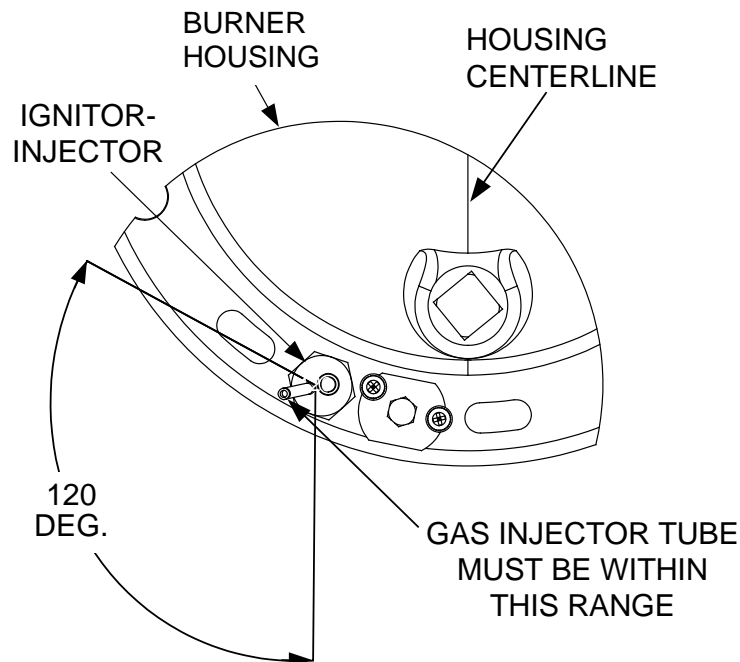

Figure 7: Benchmark 3.0LN Igniter-Injector Orientation
3. Reinstall the Igniter-Injector and, if necessary, install 1, 2 or 3 clocking washers to properly position the Gas Injector Tube within the 120° angle shown in Figure 7. Torque the Igniter-Injector to 15 ft-lbs. **Do not over tighten.**